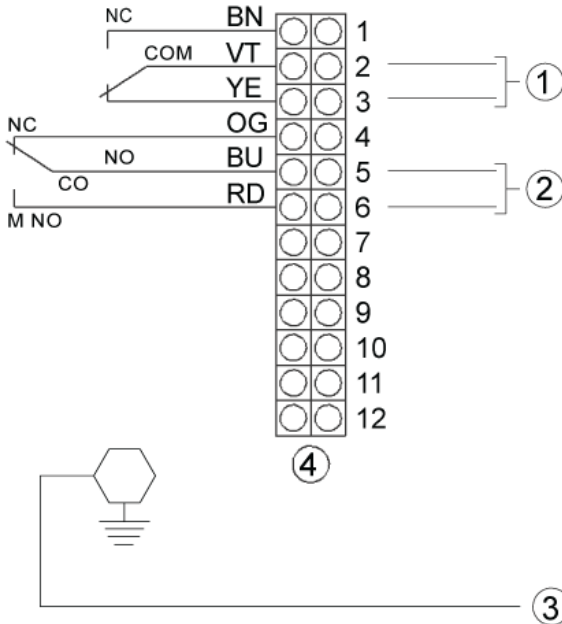

Figure 5.1 Connection Terminal Box of Position Switches
Connect the position switches according to Figure 5.1. Take note of the general installation regulations. As a rule, connect the SHLD 2 to vessel ground (PA), or in case of plastic vessels, to the next ground available. Inside the housing there is a ground terminal. On the outside of the lower housing part, there is an additional hole for a grounding screw. This connection drains off electrostatic charges.